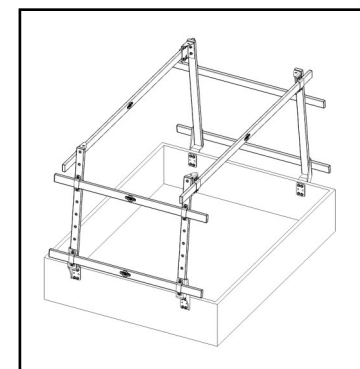

Fig. 9
9. See fig. 9. Repeat step 8 on opposite side of the UTV bed.